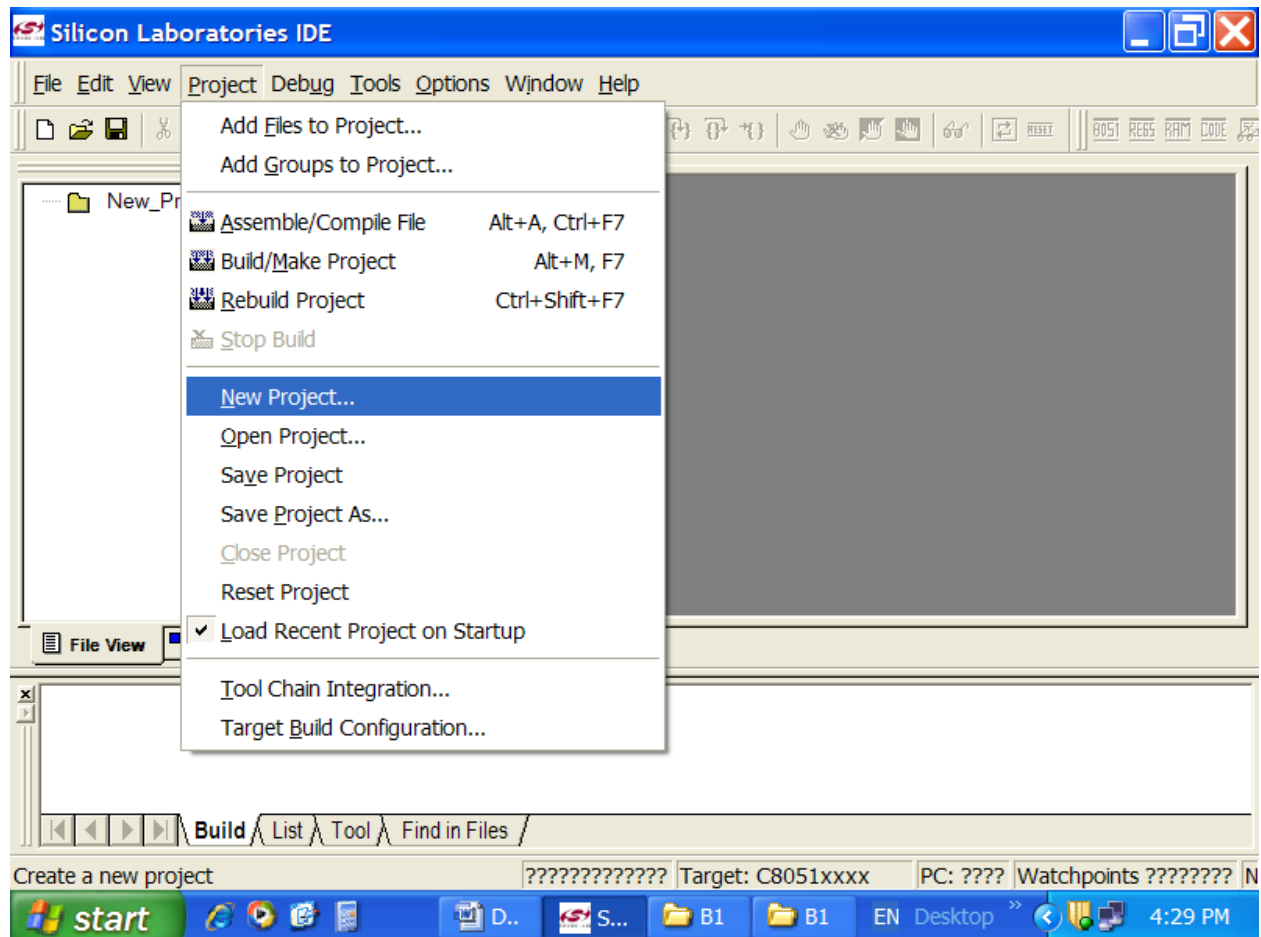

Figure 4.1
- 4.1 Click menu item "Project" and select item "New Project..." as illustrated in Figure 4.1. You should see dialog "New".